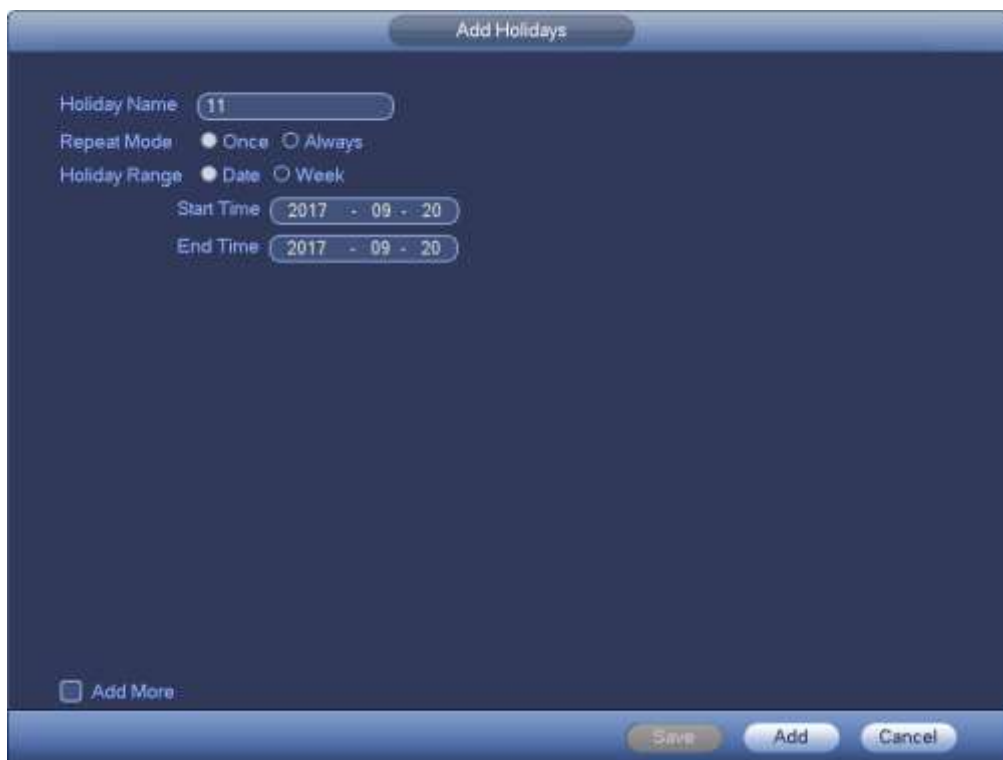

Figure 4-14
Step 2 Click Add new holiday button, device displays the following interface. See Figure 4-14.